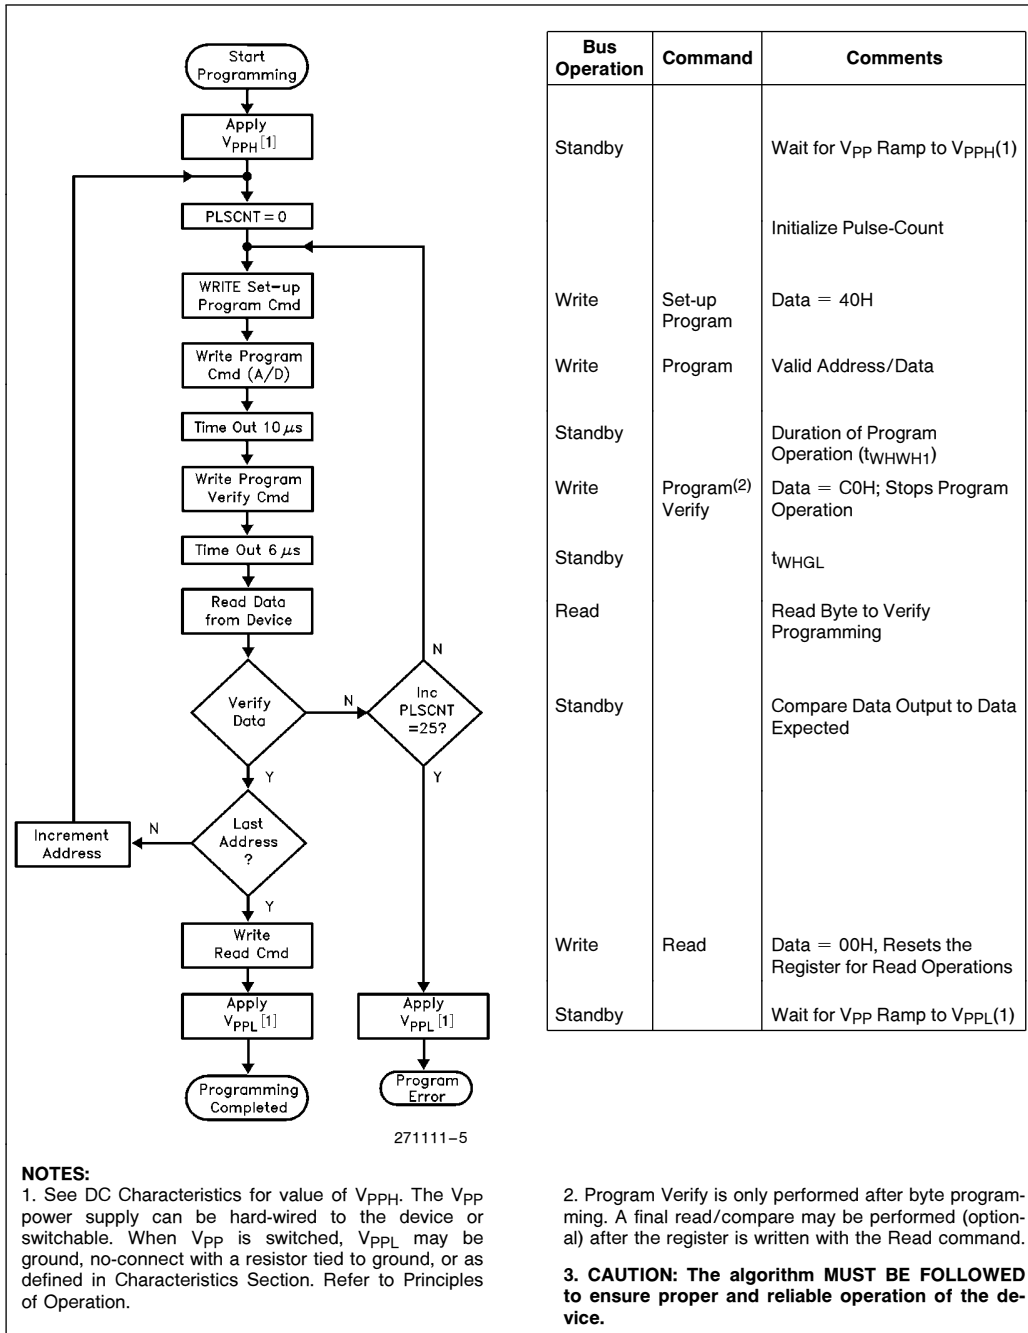

Figure 4. M28F010 Quick-Pulse Programming Algorithm
- Figure 4 illustrates the Quick-Pulse Programming Algorithm.
The M28F010 applies an internally-generated margin voltage to the byte. A microprocessor read cycle outputs the data. A successful comparison between the programmed byte and true data means that the byte is successfully programmed. Programming then proceeds to the next desired byte location. Figure 4, the M28F010 Quick-Pulse Programming algorithm, illustrates how commands are combined with bus operations to perform byte programming. Refer to AC Programming Characteristics and Waveforms for specific timing parameters.
The Quick-Pulse Programming algorithm uses programming operations of 10 μ s duration. Each operation is followed by a byte verification to determine when the addressed byte has been successfully programmed. The algorithm allows for up to 25 programming operations per byte, although most bytes verify on the first or second operation. The entire sequence of programming and byte verification is performed with V_{PP} at high voltage. Figure 4 illustrates the Quick-Pulse Programming algorithm.